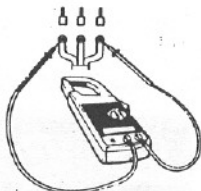

Fig. 2
- (1) Insert the red test lead into the "VOLT" terminal of the instrument and the black test lead into the "COM" terminal.
- (2) Set the range switch to the highest Vac range position.
- (3) Connect the prod tips to the circuit under test (Fig. 2) and read the voltage directly on the display.
- (4) When the reading is lower than 200 Vac, set the range switch to the next lower range position. For maximum accuracy select the lowest range possible without overranging the meter.